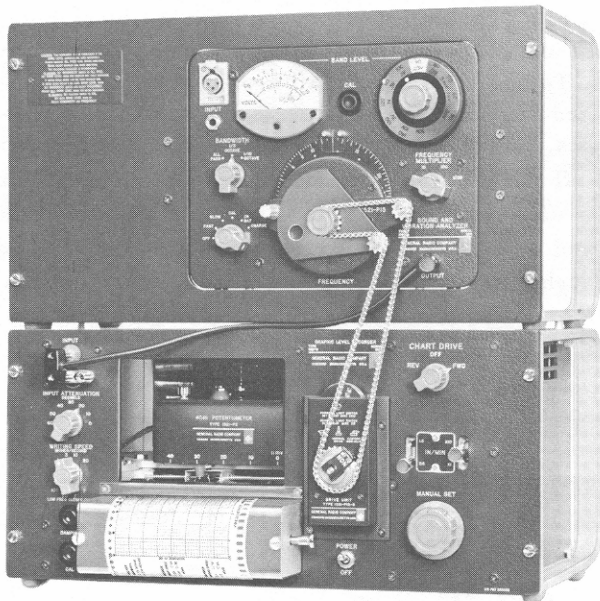
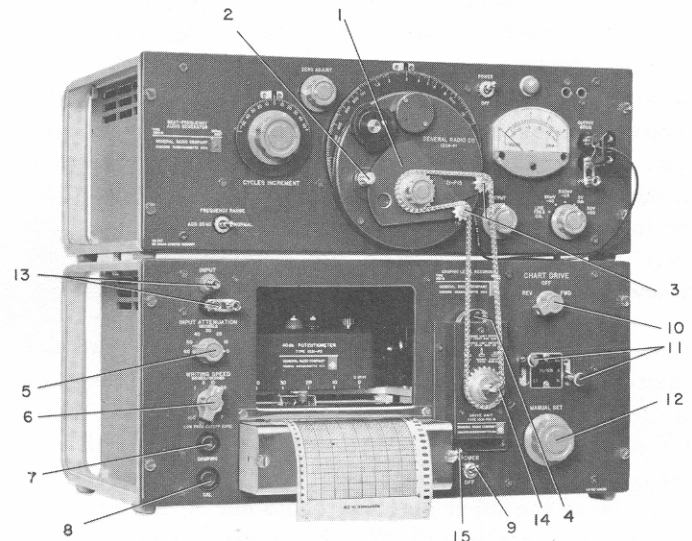

Figure 2.5. Type 1911-A Recording Sound and Vibration Analyzer consisting of the recorder attached to Type 1564-A Sound and Vibration Analyzer.
Figure 2.4. Recorder attached to Type 1304-B Beat-Frequency Audio Generator to form the Type 1350-A Generator-Recorder Assembly.
**2.2.3 INSTALLATION OF LINK UNIT ON TYPE 1304-B BEAT-FREQUENCY AUDIO GENERATOR OR TYPE 1564-A SOUND AND VIBRATION ANALYZER.** A Link Unit, including sprocket and chain, must be installed on the frequency dial of the driven instrument to couple it properly to the recorder. The Type 1521-P15 Link Unit (Figure 2.4) is designed to couple the recorder to the Type 1304-B Beat - Frequency Audio Generator (for the Type 1350-AR Generator-Recorder Assembly). The Link Unit also couples the recorder to the Type 1564-A Sound and Vibration Analyzer in the Type 1911-A Recording Sound and Vibration Analyzer (Figure 2.5).
- a. Place the Type 1304-B either above or below the recorder in a relay rack or on a bench (see Figure 2.4). The Type 1564-A should always be placed above
the recorder (see Figure 2.5).
d. Slip the chain over the sprockets of the Drive and Link Units. (See Figures 2.4 and 2.5.)
e. Tighten up any slack in the chain by first loosening the screw (2, Figure 2.4) and then swinging the idler sprocket (3) to take up the slack in the chain. Tighten the screw (2).
**2.4 STACKING.** When two or more bench instruments are to be stacked (see Figures 2.4 and 2.5), use the available hardware set (refer to parts list) and proceed as follows:
b. Place a 15/32-inch spacer (A) over each of the four holes on the top of the base end frames and line up the holes in the bottom of the end frames on the top instrument with the spacers.
c. Insert a No. 10, 1-inch screw (B) through each of the four holes in the bottom of the end frame on the top instrument and see that the screw comes through the top of the bottom end frame.
d. Tighten the assembly by securing a No. 10 locking nut (C) on each of the four mounting screws.